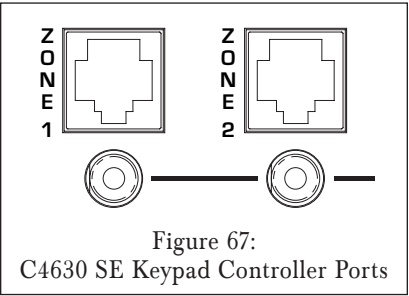

Figure 67:
- 3. Connect the CAT5/RJ45 cable to the zone’s Keypad Controller Port on the C4630 SE (see *Figure 67*) and to the multi-pin connector on the back of the keypad. Refer to the keypad instructions for details about wiring to the keypad.